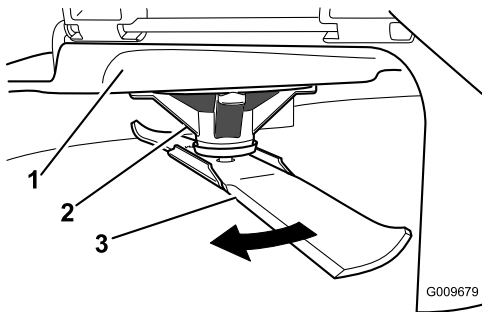

Figure 41
2. While wearing thickly padded gloves, or other adequate hand protection, slowly rotate the blade to be measured into a position that allows effective measurement of the distance between the cutting edge and the level surface the machine is on (Figure 41).